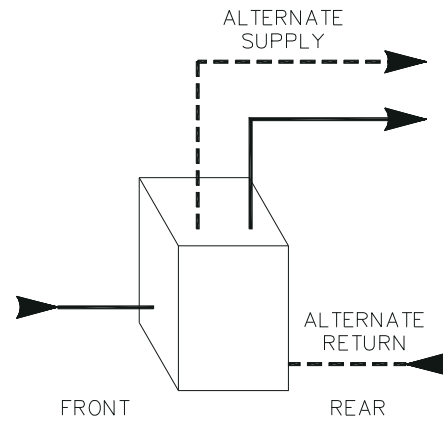

Figure 3.3: Water Boiler Piping
3. Pipe the supply and return in one of two ways as shown in Figure 3.3: